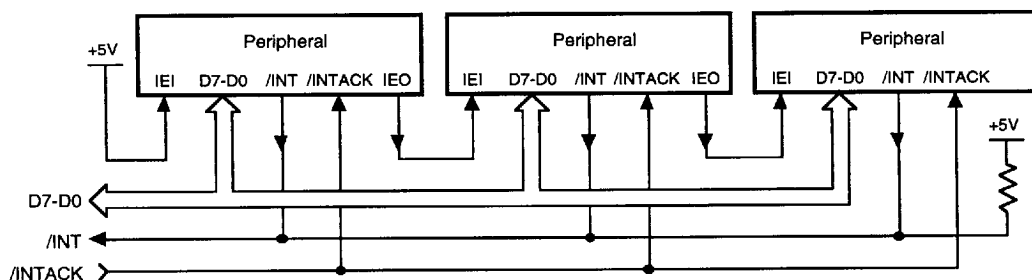

Figure 7. EMSCC Interrupt Priority Schedule
Each of the three sources of interrupts in the EMSCC (Transmit, Receive, and External/Status interrupts) has three bits associated with the interrupt source: Interrupt Pending (IP), Interrupt Under Service (IUS), and Interrupt Enable (IE). Operation of the IE bit is straightforward. If the IE bit is set for a given interrupt source, then that source can request interrupts. The exception is when the MIE (Master Interrupt Enable) bit in WR9 is reset and no interrupts can be requested. The IE bits are write only. The other two bits are related to the interrupt priority chain (Figure 7). As a microprocessor peripheral, the EMSCC may request an interrupt only when no higher priority device is requesting one, e.g., when IEI is High. If the device in question requests an interrupt, it pulls down /INT. The CPU then responds with /INTACK, and the interrupting device places the vector on the data bus.